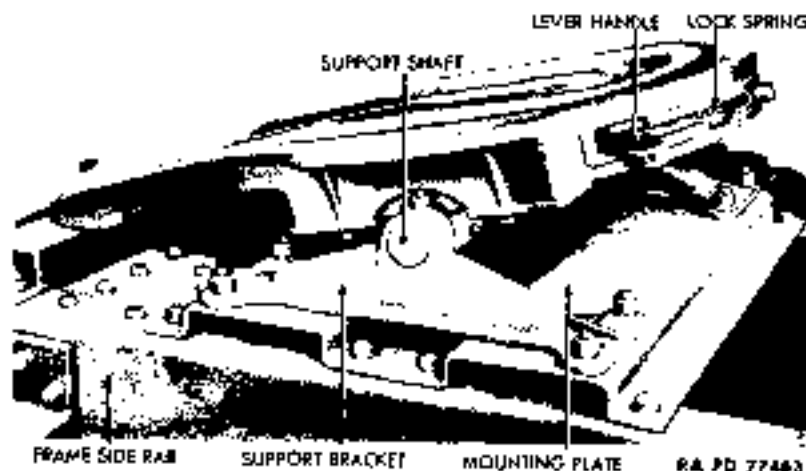

Figure 106 - Fifth Wheel Installed
a. Description (fig. 106). The fifth wheel is attached to a mounting plate bolted to the frame side rails at the rear of the truck, and is used to couple tractor and trailer together. It is a swivel-mounted, flat, round steel plate. Rear half of plate forms a V-shaped opening which guides the kingpin neck of the trailer coupling to the coupler jaws at the center of the plate. The kingpin neck snaps the jaws shut, and releases a lever handle to a position that locks the jaws. Disengagement is effected by pulling handle forward, and pushing lever toward the center of the vehicle.